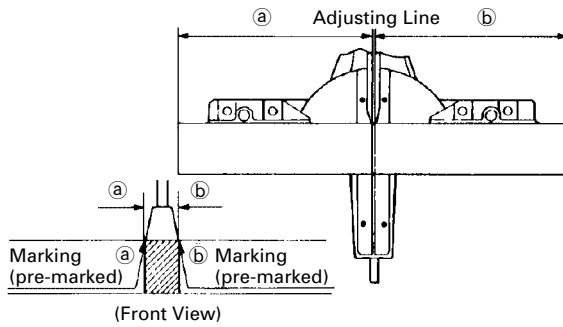

Fig. 19
- (1) As shown in Fig. 19 the width of the saw blade is the width of the cut. Therefore, slide the workpiece to the right (viewed from the operator's position) when length ⑥ is desired, or to the left when length ⑤ is desired.
- (2) Once the saw blade reaches maximum speed, push the handle down carefully until the saw blade approaches the workpiece.
- (3) Once the saw blade contacts the workpiece, push the handle down gradually to cut into the workpiece.
- (4) After cutting the workpiece to the desired depth, turn the power tool OFF and let the saw blade stop completely before raising the handle from the workpiece to return it to the full retract position.